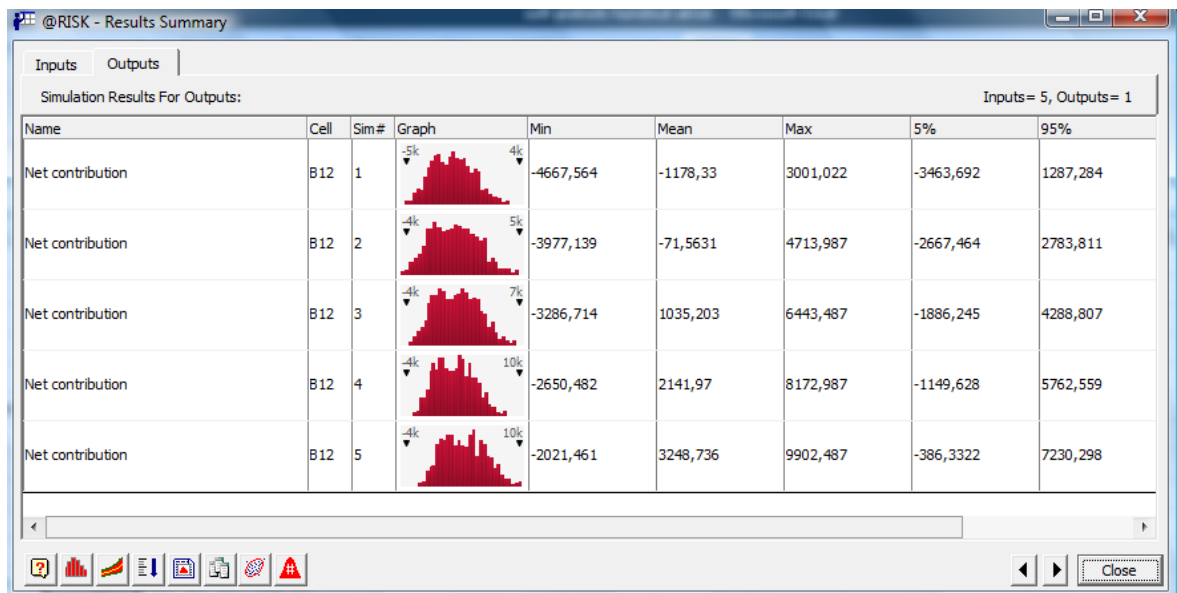

Figure 7: The simulation output in the @RISK – Results Summary window for the five input price levels using RiskSimTable
- 10.1. Click on the *Summary* button in the *Results* section of the @RISK ribbon. Observe that the means (or expected values) increase dramatically as the price increases, as shown in Figure 7. For example, the expected Net Contribution equals \$3248 when Price = \$0.60, which is above the maximum Net Contribution of \$3001 when Price = \$0.40.